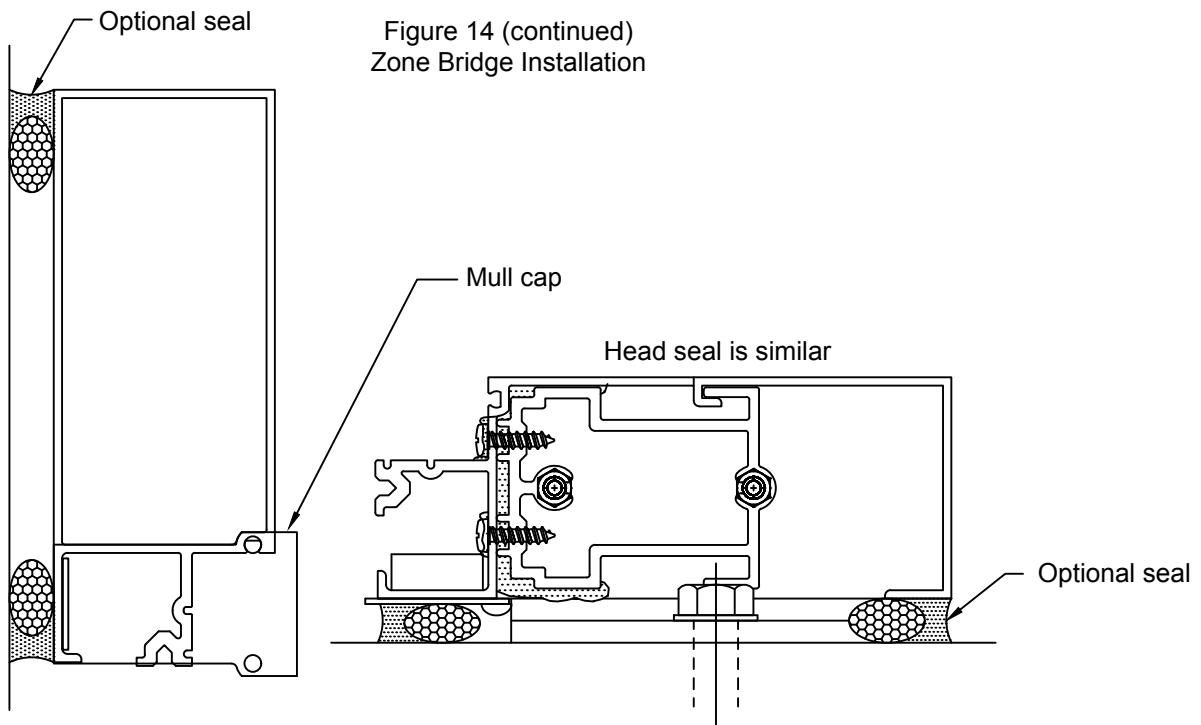

Figure 15
- 2.6 When all framing members are installed, apply the perimeter seal. SEE FIGURE 15, page 21. The interior perimeter seal is not required for system performance, but can be installed for cosmetic purposes. Perimeter sealing must be completed prior to glazing.